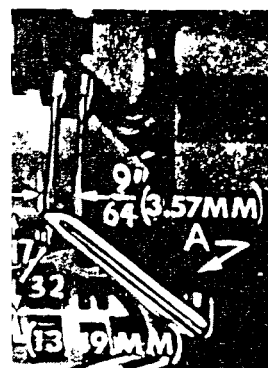

Fig. 10
Next, turn the handwheel until the upper looper is at the left end of its travel. Check dimensions of upper looper point with respect to the RIGHT needle and throat plate (Fig. 10). Looper point should be 9/64 inch (3.57 mm) to the left of centerline of RIGHT needle and 17/32 inch (13.49 mm) above throat plate (Fig. 10). If resetting is necessary, do it by moving the upper looper holder (A, Fig. 10). NOTE: Figure 10 represents the correct dimensional settings.
If it becomes necessary to move looper thread pull-off (AF), be sure to take up all end play in needle drive shaft before tightening. If upper looper is located so that it is higher over throat plate than recommended in (Fig. 10), the purl will tend to form near the top edge. If upper looper is too low, the purl will form nearer the bottom edge.